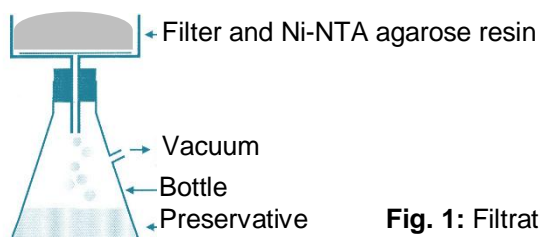

Fig. 1: Filtration of the Agarose suspension
- B.** Gently shake the bottle of agarose resin to get a homogeneous suspension. Invert the bottle of resin several times and then filter the resin (Fig.1). Put the resin in a container.